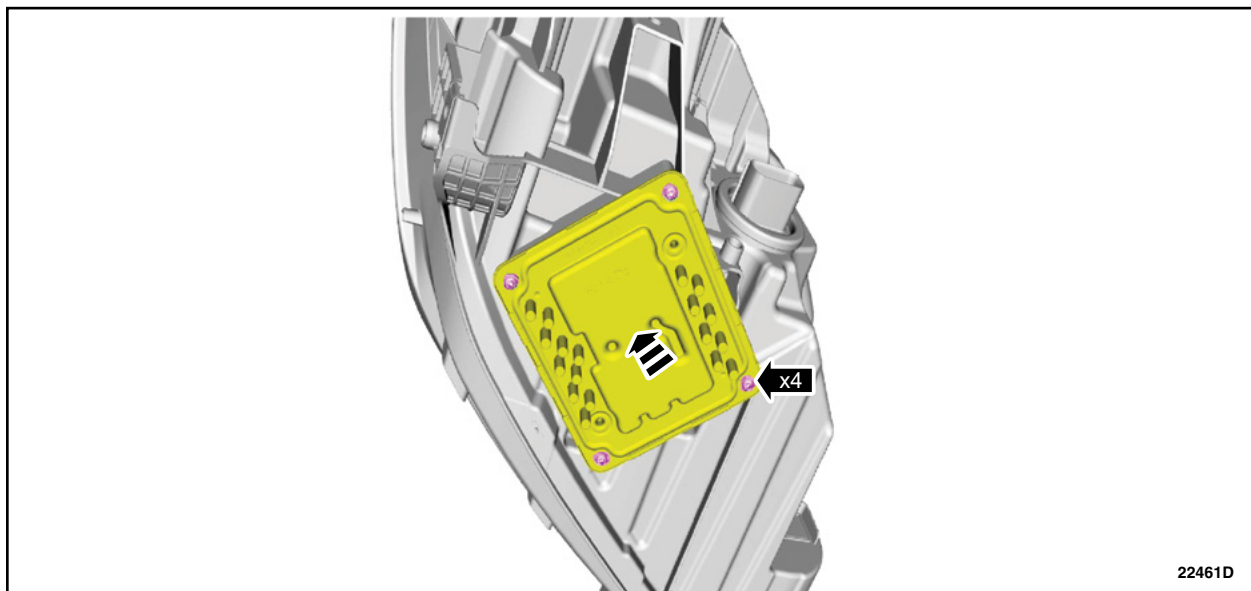

FIGURE 3
4. Position the *new* LED control module and install the screws. See Figure 3.